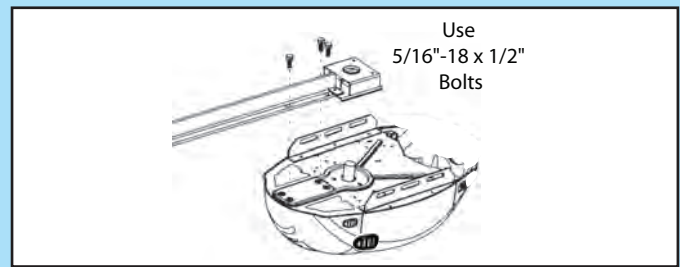

FIG. 1-5 Rail - Power head assembly.
1. Attach rail assembly to power head by aligning the sprocket onto the motor shaft. Use (3) bolts, 5/16" -18 x 1/2" (Fig. 1-5).